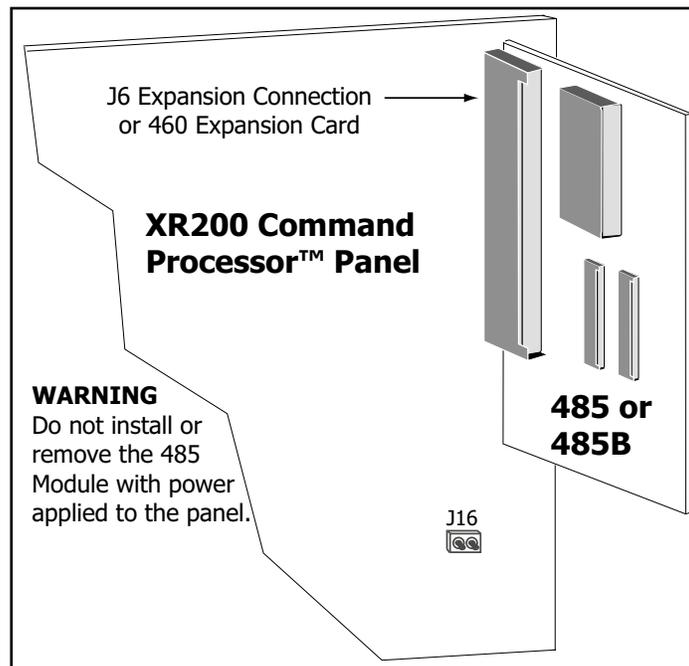

Figure 1: XR200-485 Installation
5. Insert the Enhanced 485 or Enhanced 485B card into the XR200 J6 connector or the Model 460 Interface Adaptor while applying even pressure to both sides. See Figure 1.